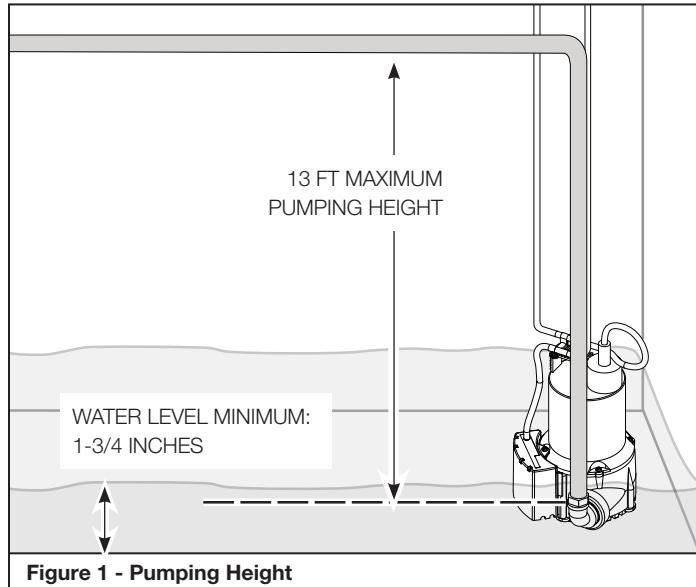

Figure 1 - Pumping Height
1. Verify pumping height does NOT exceed 13 feet (See Figure 1). If pumping height is greater than 13 feet, this pump will NOT operate.
2. Verify water depth is 1-3/4 inches or greater (See Figure 1).